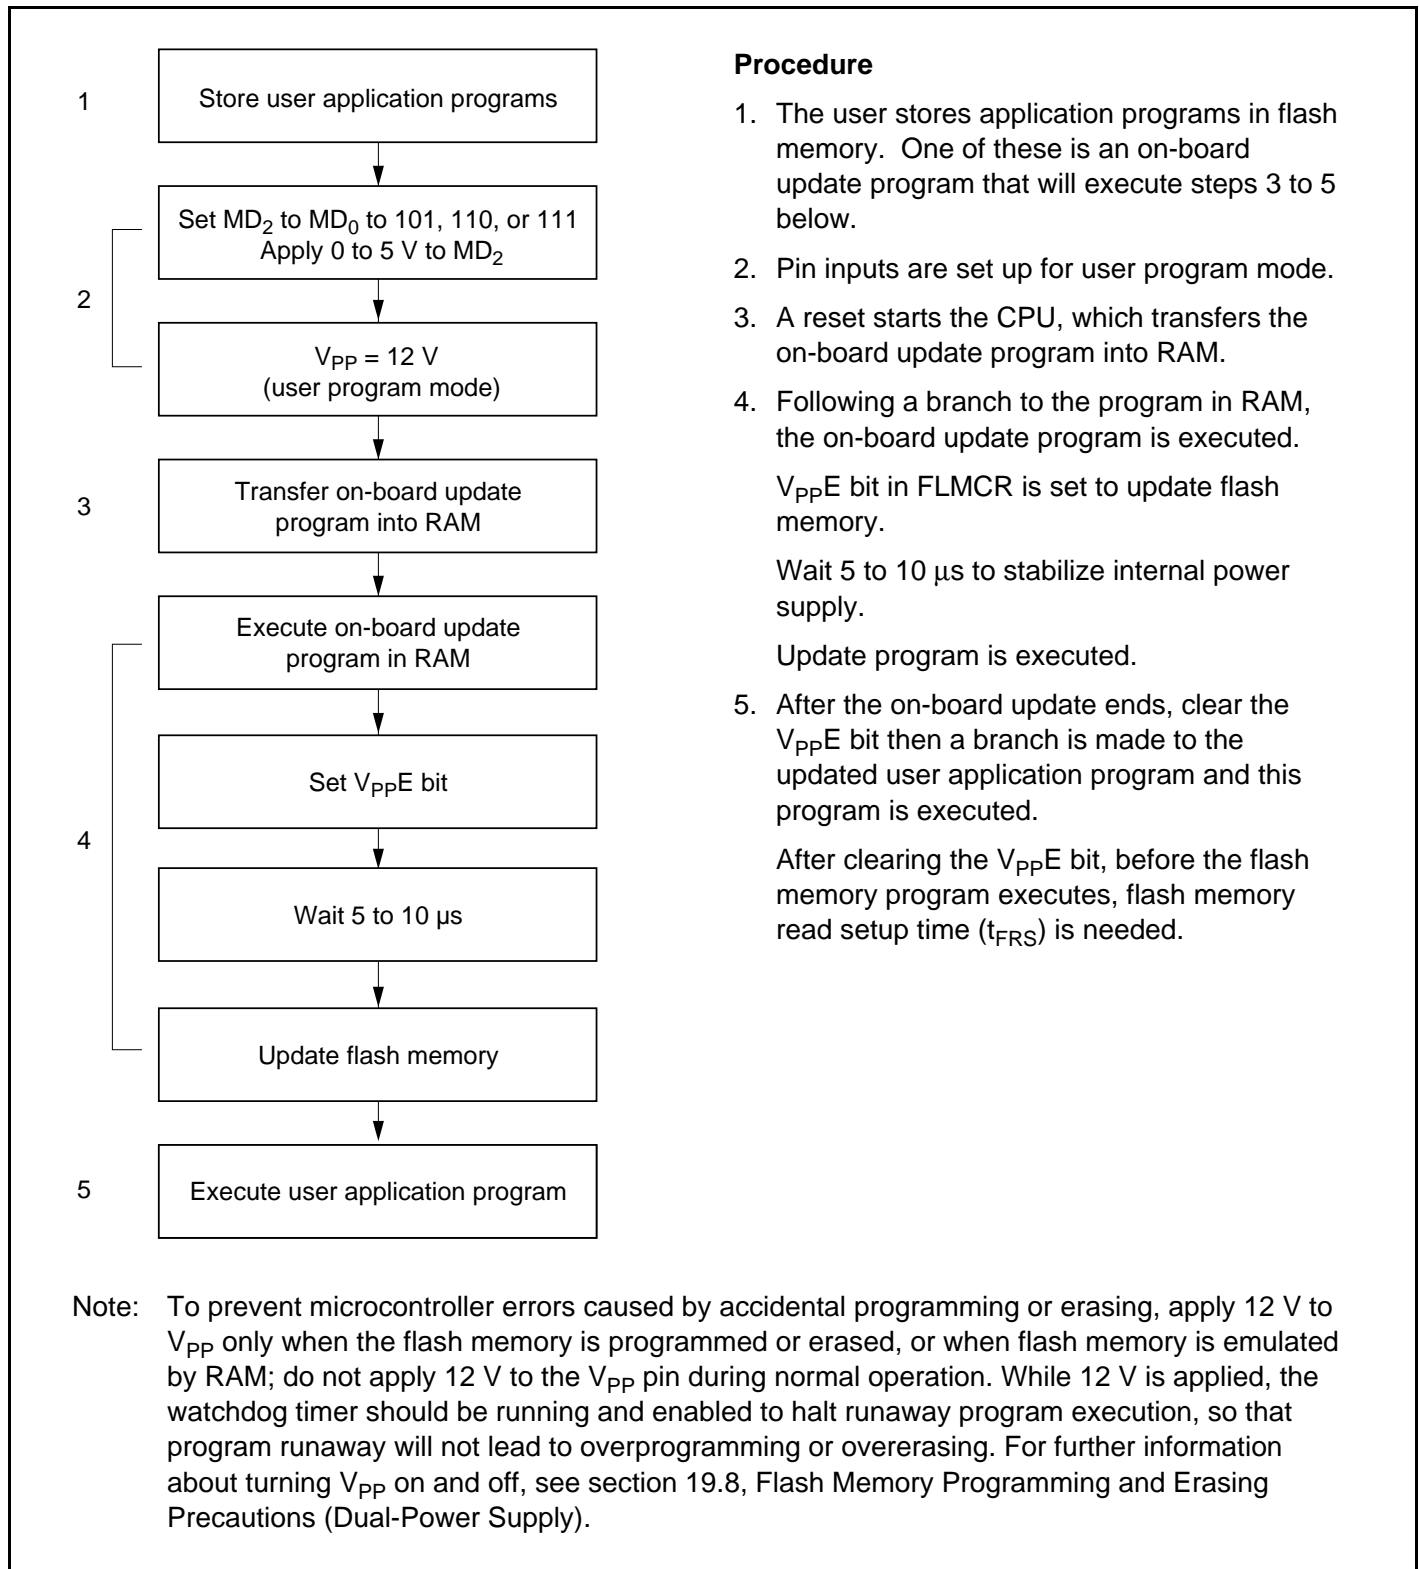

Figure 19.7 User Program Mode Operation (Example)
6. Transition to boot mode are shown in figure 19.7, User Program Mode Operation (Example). This is possible after applying 12 V to pins MD_2 and V_{PP} and restarting. In this case, H8/3048F reset is erased (startup with Low \rightarrow High) timing^{*1}, mode pin status latches the personal computer internally to maintain boot mode. Boot mode can be erased if the 12 V applied to the MD_2 pin and the V_{PP} pin is erased, then reset is erased^{*1}. However, please note the following.
User Program Mode Execution Procedure: Figure 19.7 shows the procedure for user program mode execution in RAM.